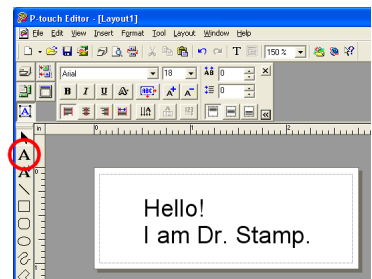

figure 2
- 3 Type the first line of stamp text, and then press the Return key. Continue typing, pressing the Return key after each line of text (see figure 2).